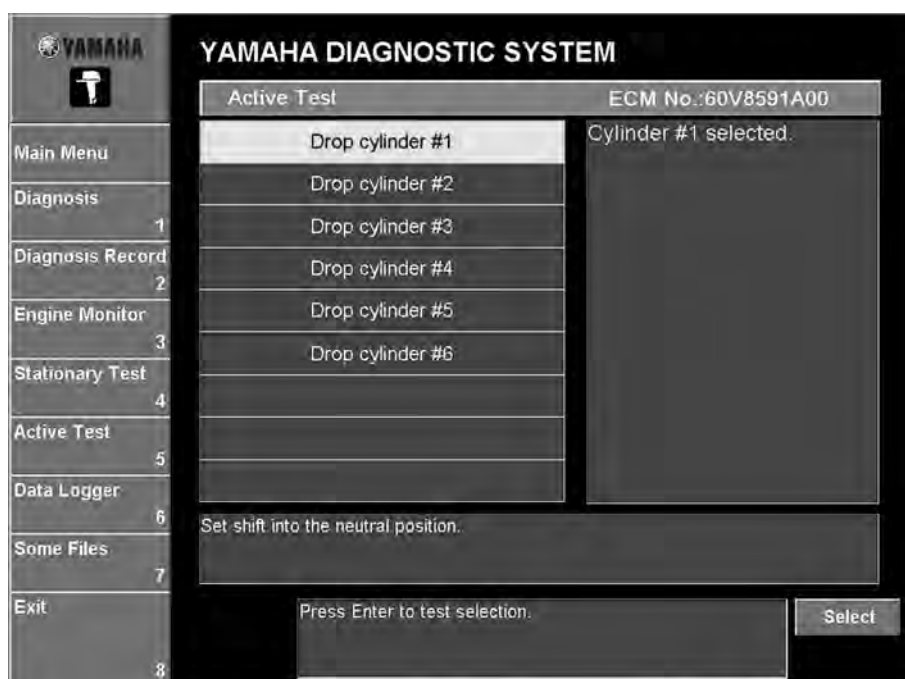

Fig. 96
1. Select which ignition and fuel you wish to cut by either clicking it or pressing the up or down arrow keys on your keyboard. (Fig. 96)
2. Click the **Select** button or press the Enter key on your keyboard. (Fig. 96)